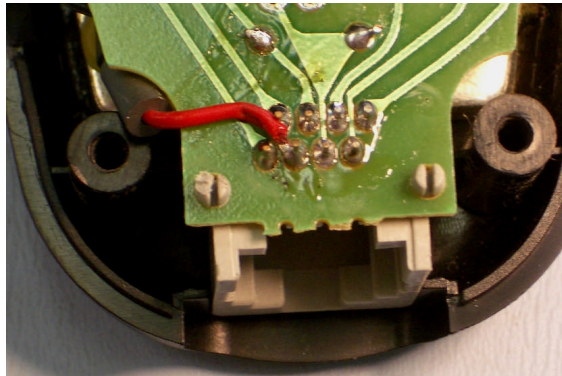

Figure 7.
14. Solder the RED wire to the RJ-45 connector pin as shown in Fig. 7. The connection is made to the first row, second pin from the left with respect to the screws holding the RJ-45 connector in place.